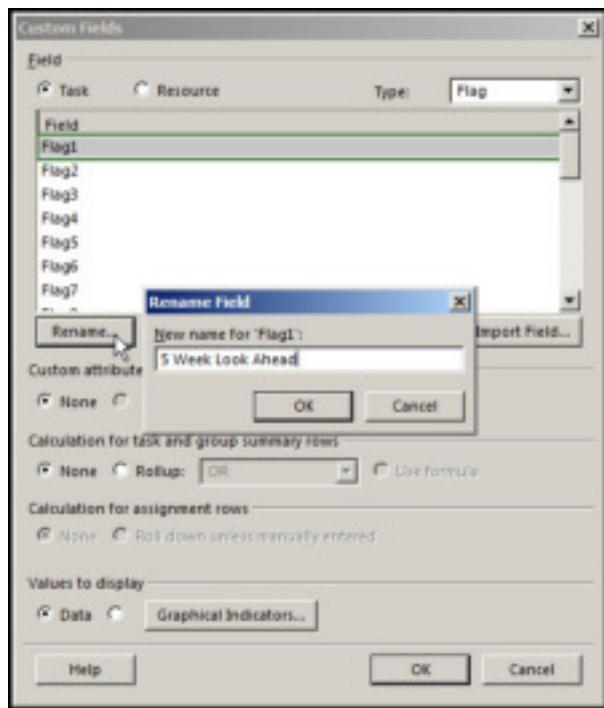

Figure 3
- B. In the custom fields dialog, Figure 3, select the type Flag from the drop-down menu. Rename Flag1 “3 Week Look Ahead”.